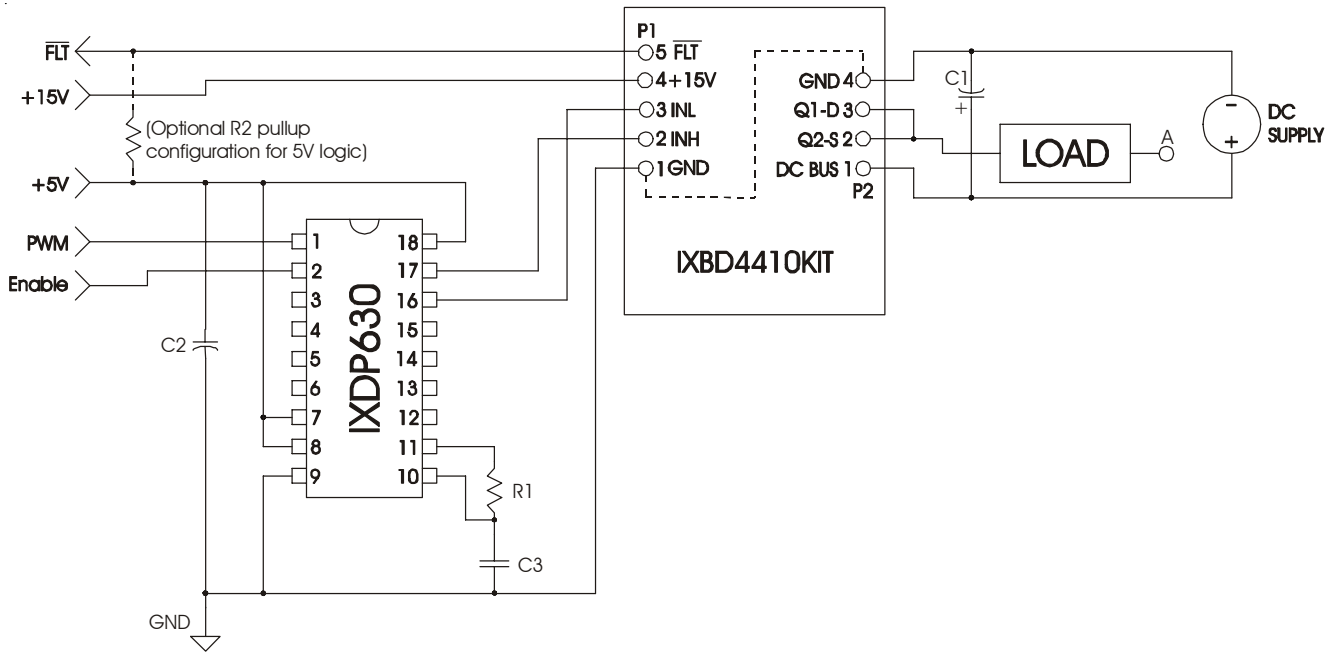
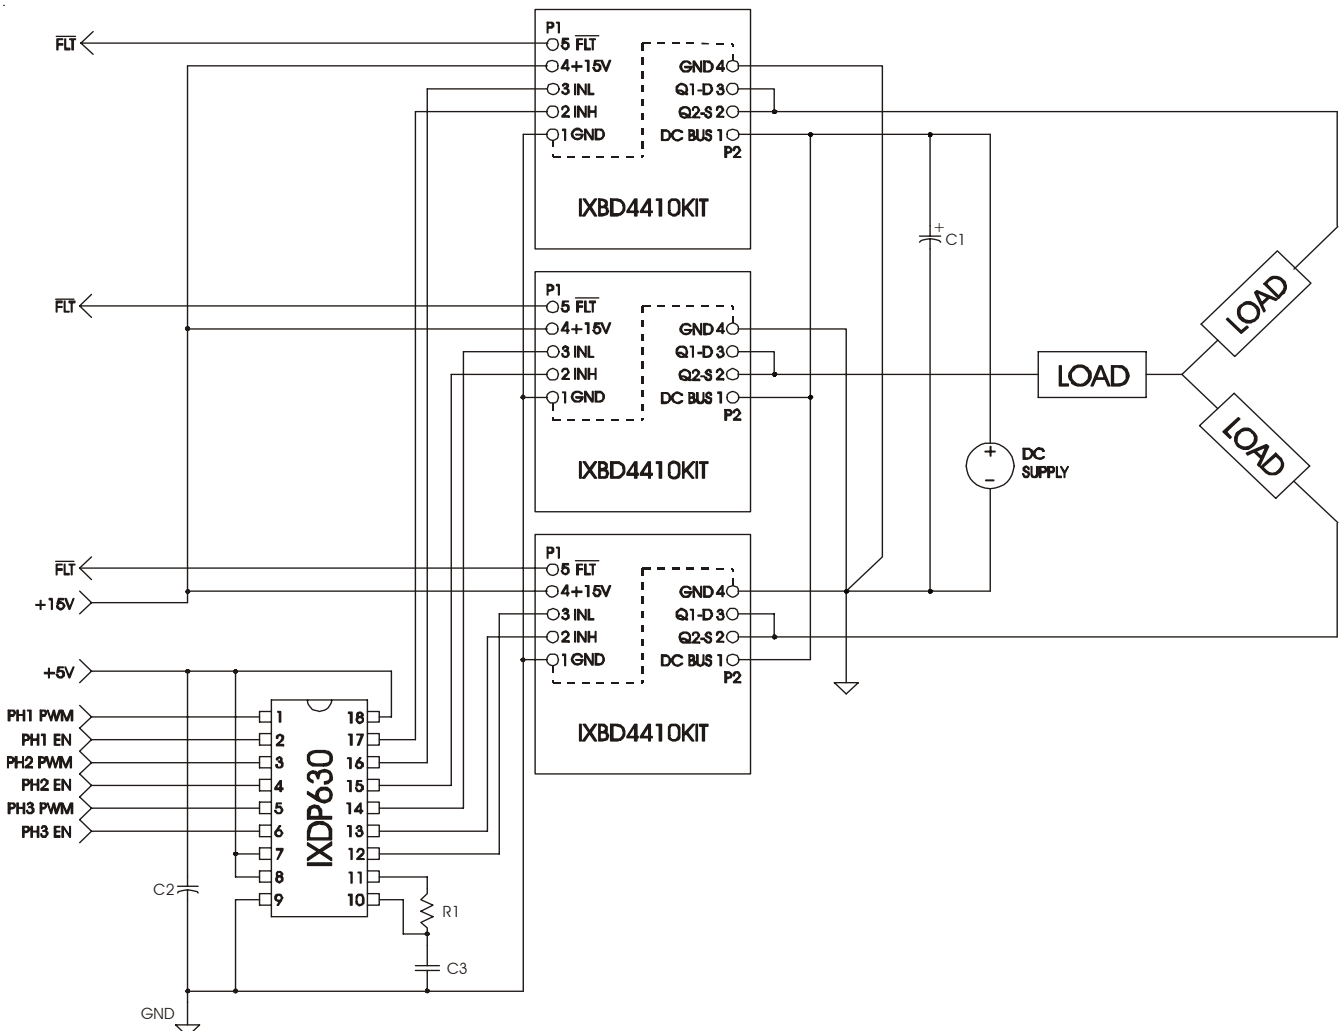
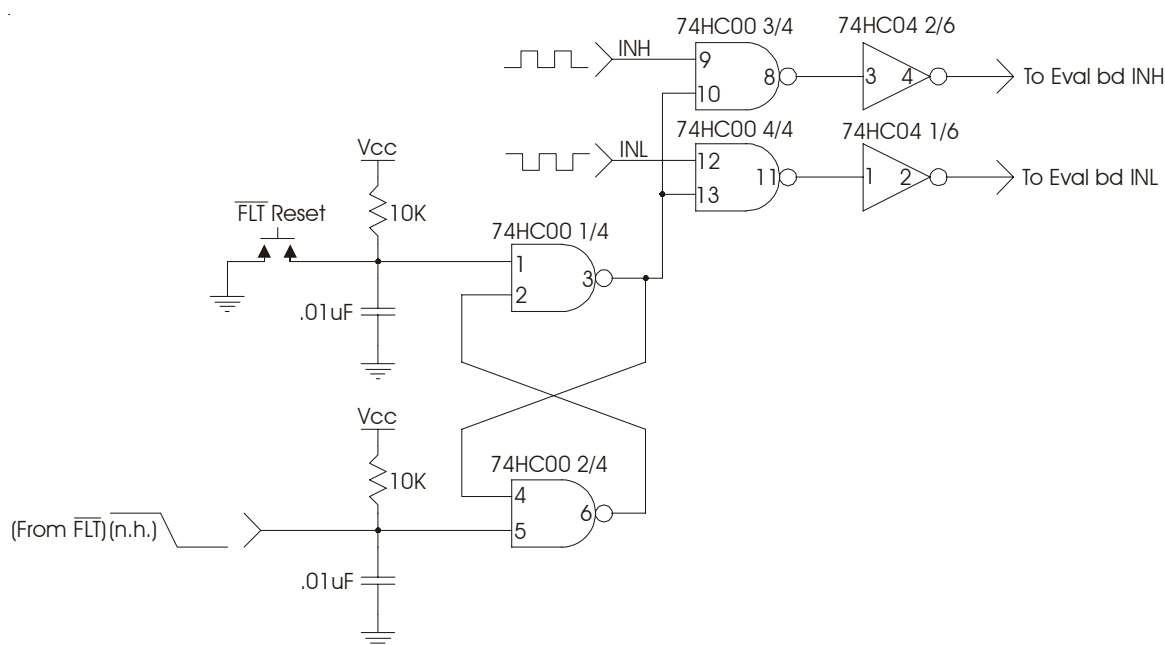

Figure 4: Dead Time Generator & Load Termination
Figure 5: Three Phase Configuration with Dead Time Generator
Figure 6: Simple Fault Protection Logic Circuit
b) Be careful with ground connections. Avoid ground loops. In general, connect the grounds as shown in Figure 4 to minimize ground bounce effects. This is particularly important when three "High/Low side driver design kits" are connected together with a single IXDP630 to form a three phase drive system, such as that shown in Figure 5.
c) Before using the PCB at full power or attempting a short circuit test, make sure that a proper high voltage electrolytic capacitor is connected between DC BUS and GND as shown in Figure 4. The leads to this capacitor should be as short as possible to minimize any stray inductance.
d) Figure 4 shows the load terminated at point A. This point could be connected to a number of places depending on the application. For example: Connection to ground will test the high side device. Connection to DC BUS will test the low side device. It could also be connected to the center point of a capacitive divider (UPS systems).
e) Figure 5 shows a three phase power system implementation with a load configured in a Y (star). It could also be configured in a DELTA configuration. Please note the grounding scheme. Cut the connection between "ground plane 2" and "ground plane 4" on the components side of the PCB and solder a 10 Ohm resistor between these ground planes. The GND of each board is terminated to a single ground point.
In Figures 4 & 5, the schematic assumes the designer will be using some type of external control system for starting the circuit and/or resetting the circuit in the event a fault occurs. As an alternative, Figure 6 demonstrates a simple and inexpensive Start/Reset logic circuit for manually implementing fault protection.
Figure 6 shows the addition of two IXDD414's. These are CMOS high-speed MOSFET drivers that have a 14A Peak Output Drive Capability, allowing the 4410/11 chipset to drive a pair of IXFK90N20Q 90A/ 200V Power Mosfets. (The 2 ohm gate resistors shown should be Non-Inductive High Performance Film resistors such as those available from Caddock. Particular attention also needs to be paid to Supply Bypassing, Grounding, and minimizing the Output Lead Inductance when designing such a high power circuit layout).